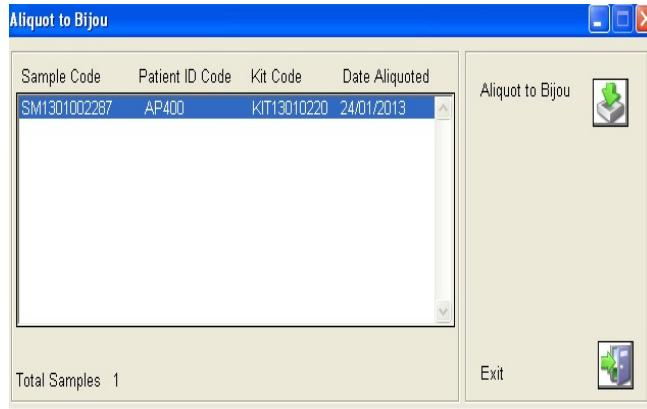

Figure 17: Aliquot to Bijou
5. Select the falcon tube used and the bijou tube LIMS code will appear in the right box on the screen. Select the '**Aliquot**' button. This will bring up the '**Aliquot to Bijou**' screen (Figure 17).
6. Select '**Aliquot to Bijou**' button (Figure 17) for the appropriate Patient ID.